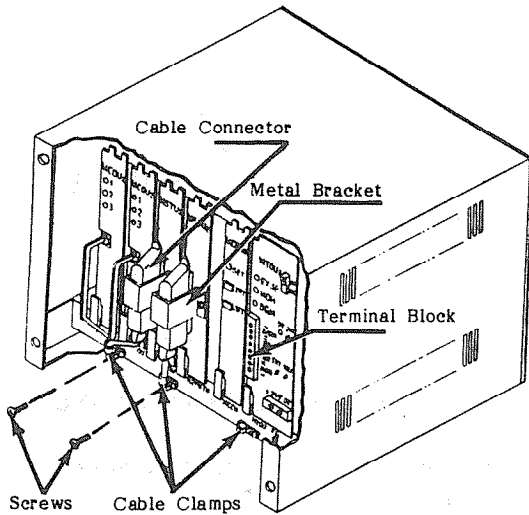

FIGURE 11
07.03 A 25-pair male-amphenol-ended cable is connected directly to the front of each MSTU PCB and fastened with the metal bracket that is provided (Figure 11).
07.04 Secure the cables to the bottom of the MKSU shelf (Figure 11)